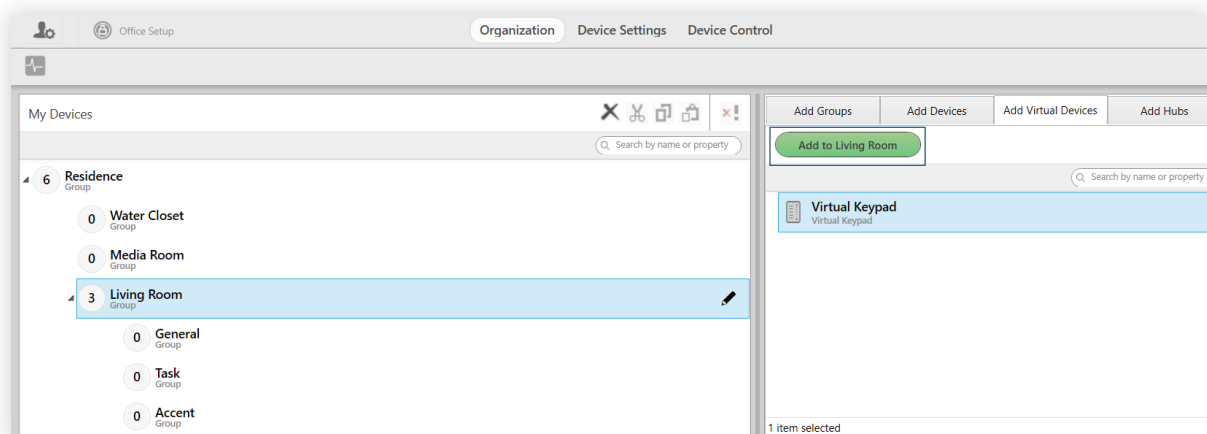

fig. 43
- 2 Highlight the destination group in **My Devices** and click the green **Add** button. (See fig. 43.)